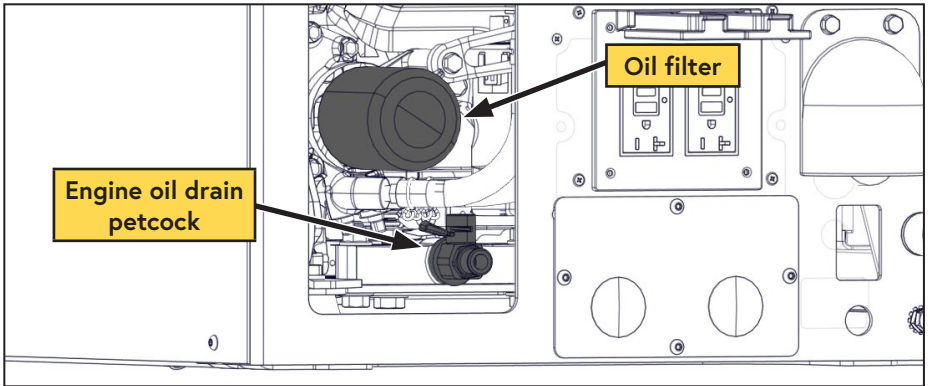

Figure 36 — Oil filter
- Clean the area around the engine and the oil filter to prevent contamination (Figure 36).